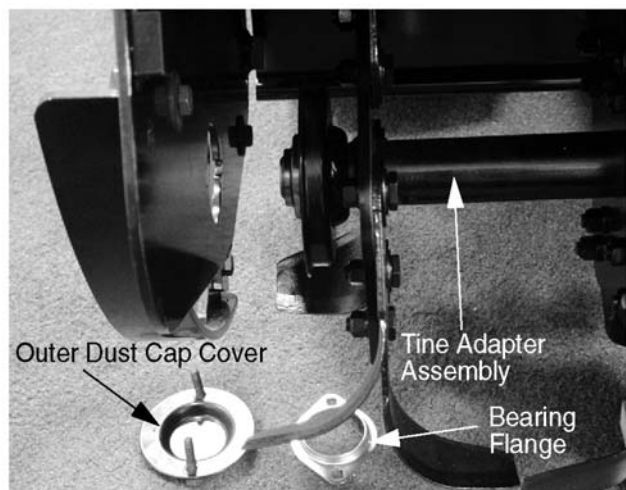

Figure 8-108.
- Push the tine shaft into the tine adapter assembly and remove the bearing flange and outer dust cap cover. See Figure 8-108.